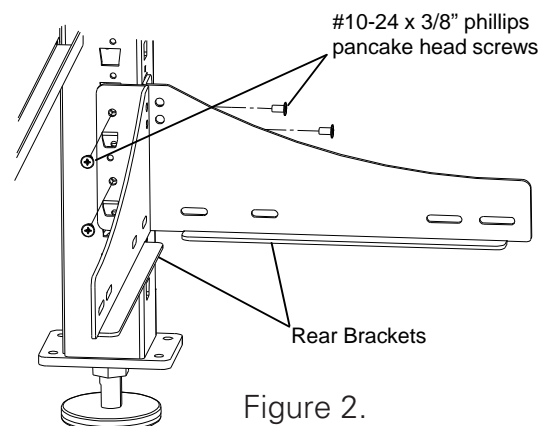

Figure 2.
2. Lock each Bracket in place using two #10-24 x 3/8" phillips pancake head screws (provided). See figure 2.